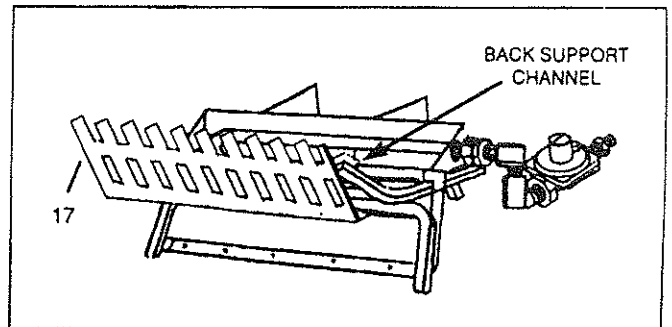

Figure 5. Installation of Grate Enhancer
- A. Place the grate enhancer (Part #17) over the front two pieces of the grate assembly. (See Figure 5)